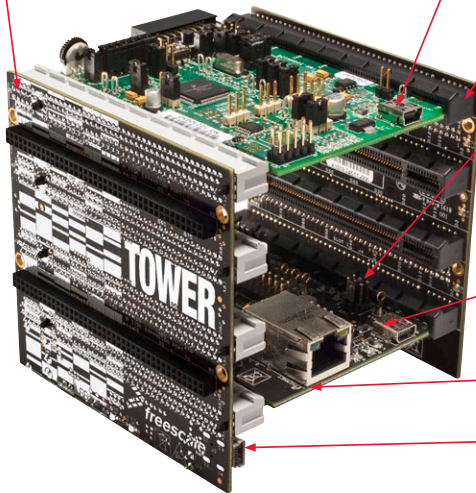

Figure 2: Tower System Assembled
**NOTE:** Figure 2 is a Tower System without the optional MED-EKG assembly. For details on how to assemble the MED-EKG, please refer to Lab 1 on the DVD.
1. Build the Tower System as shown in Figure 2, and make necessary configurations according to the notes that point to the component settings.